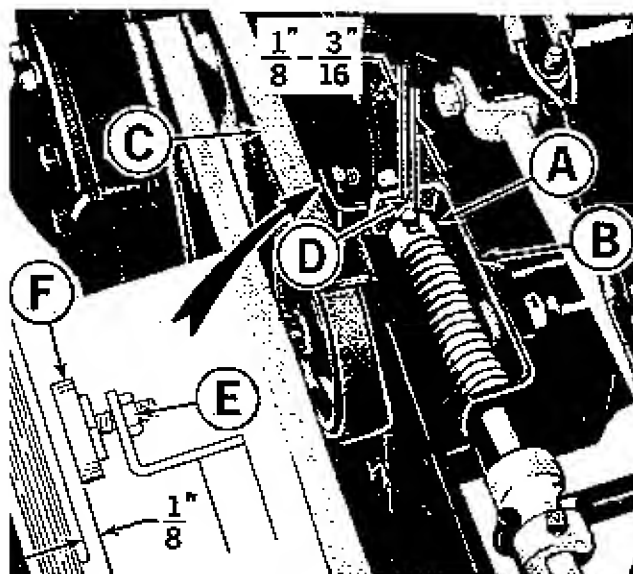

Figure 10. Shuttle drive forward adjustment.
5. See figure 10. Loosen nut (E) and turn brake pad (F) so there is  $\frac{1}{8}$ " clearance between the brake pad and the drive pulley. Tighten nut (E) securely.
6. See figure 10. Use the following procedures to adjust the forward clutch.
- b. See figure 10. Loosen the set screw in collar (A). Push the rod guide assembly (B) forward until slack is removed from the forward drive belt (C).
- e. See figure 10. The distance (D) between the rod guide and collar (A) should be  $\frac{1}{8}$ " to  $\frac{3}{16}$ ". If it is not, repeat steps a. through d. until distance (D) is  $\frac{1}{8}$ " to  $\frac{3}{16}$ ". Place more tension on belt (C) to increase distance (D) or less tension to decrease the distance.
**Will not pull forward with full power.** Repeat adjustment step 6 placing more tension on the clutch belt. (figure 10, item C).
**Tractor creeps forward when control lever is in neutral.** Repeat step 6 placing less tension on the clutch belt. (figure 10, item C).